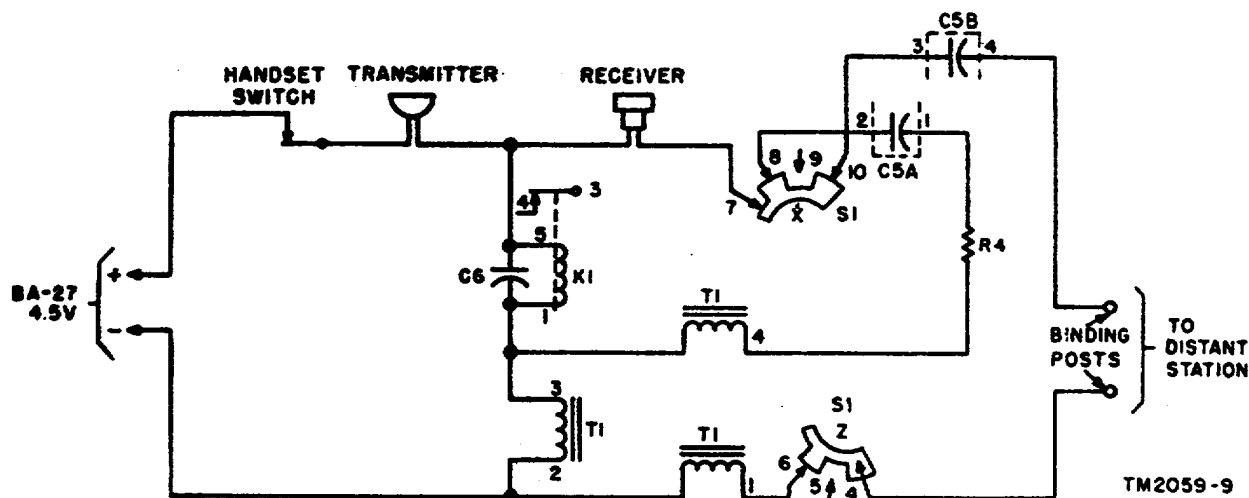

Figure 9. Transmitting circuit without amplification, simplified schematic diagram.
38. Transmitting Circuit Without Amplification (fig. 9)